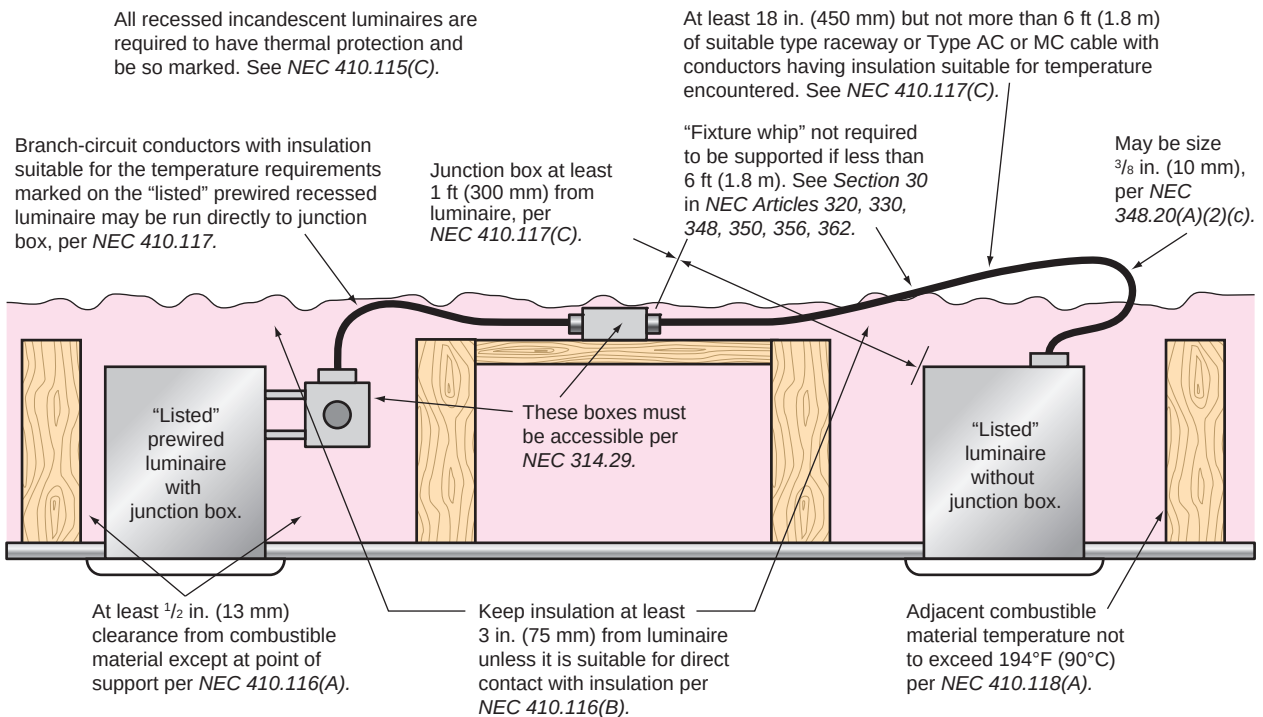
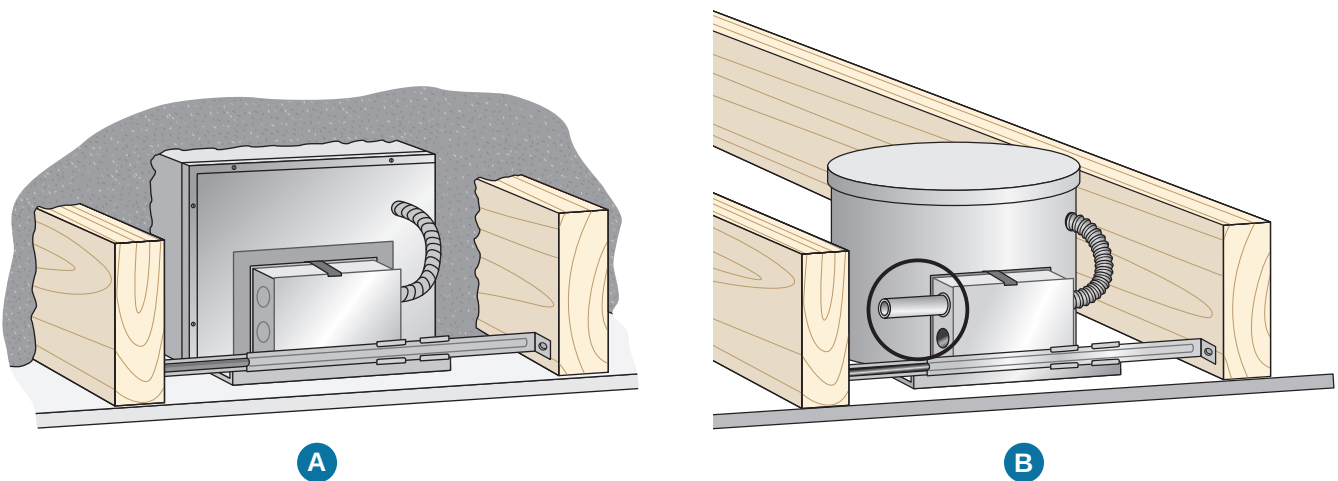

FIGURE 15-8 Requirements for installing recessed luminaires. Recessed luminaires are either Type IC or Type Non-IC. (Delmar/Cengage Learning)
FIGURE 15-9 (A) Incandescent recessed luminaire marked IC. (B) Luminaire not marked IC. (Delmar/Cengage Learning)
be accessible to the luminaire opening by means of a metal raceway or cable that is at least 18 in. (450 mm) long, but not more than 6 ft (1.8 m) long. Conductors suitable for the temperatures encountered are necessary. This information is marked on the luminaire. Branch-circuit conductors may be run directly into the junction box on listed prewired luminaires, Figure 15-8.
Recessed luminaires are usually supported by adjustable rails (hangers) that are attached to the luminaires' rough-in box. These adjustable rails (hangers) are clearly shown in Figures 15-9(A) and 15-9(B).
be marked that thermal protection is provided. Watch the markings showing maximum lamp wattage and temperature rating for supply conductors. These luminaires may also be installed in non-insulated locations. See Figure 15-9(A).
Recessed incandescent luminaires not marked Type IC and those marked for installing directly in poured concrete must not have insulation over the top of the luminaire. In addition, the insulation must be kept back at least 3 in. (75 mm) from the sides of the luminaire. Other combustible material must be kept at least ½ in. (13 mm) from the luminaire except at the point of support. Watch for markings on the luminaire for maximum clearances, maximum lamp wattage, and temperature ratings for the supply conductors. See Figure 15-9(B).
Recessed luminaires generate a considerable amount of heat within the enclosure and are a definite fire hazard if not wired and installed properly, Figure 15-8, Figure 15-9, and Figure 15-10. In addition, the excess heat will have an adverse effect on lamp and ballast life and performance.